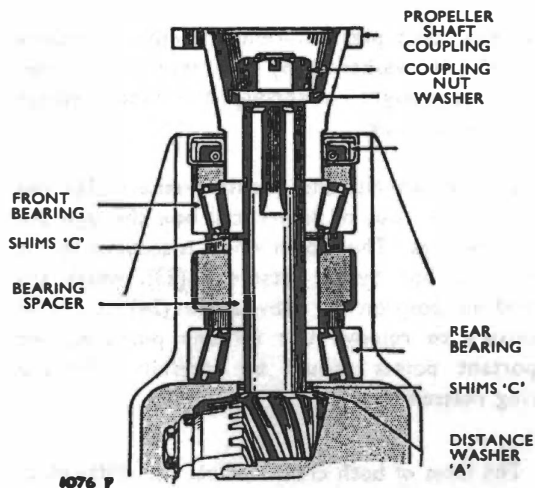

Fig. 11. View of bevel pinion assembly
**BEVEL PINION—To dismantle, adjust and reassemble (See Figs. 11 to 13)**
Remove split pin, nut and washer and withdraw propeller shaft driver coupling. *On some cars a self-locking coupling nut is used and no split pin fitted.* For this purpose the flange-holding wrench VLC. tool RG.48 will be required. Tap out the bevel pinion, using a soft metal drift to avoid damaging the threads. The inner race of the rear bearing, distance washer A, shims B and C and bearing spacer, which have become detached with the pinion shaft, should be removed. (Fig. 11).
A gap will exist between the end of the dummy pinion shaft and the centre jig. Place the distance washer shown at "A" in Fig. 11, in this gap and measure the remaining clearance with feeler